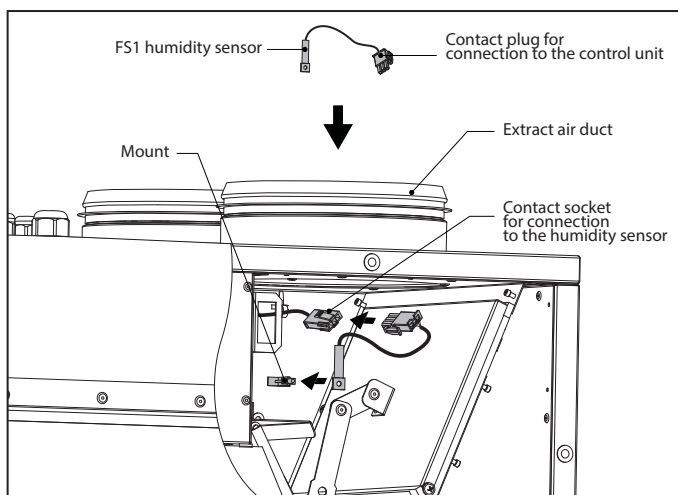

Fig. 10. FS1 humidity sensor mounting
**FS1 HUMIDITY SENSOR MOUNTING (Fig. 10).**